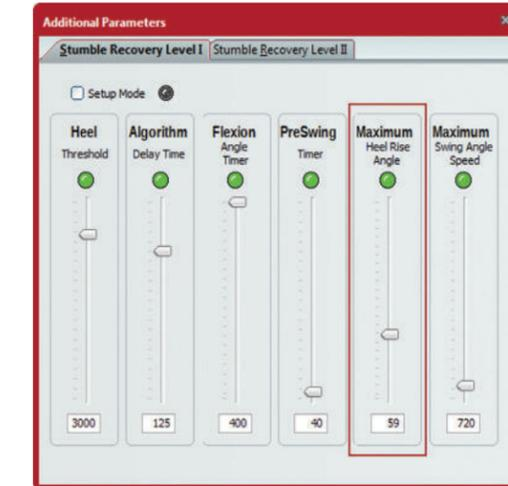

Figure 1
10. In the *Apply Settings* window, select Apply to Knee to set the recommended values to the Plié 3 as well as to take to take the Plié 3 out of Setup Mode. If excessive heel rise is observed during normal to fast walking, an adjustment may need to be made to decrease the “Maximum Heel Rise Angle” value (Figure 1).
- a. Using the air pump adjust swing extension assist. Higher pressure will provide increased assistance, lower pressure will decrease the assistance. Maximum heel rise will automatically be set by the Setup Wizard. If further adjustments are needed refer to "Maximum heel rise" in pane 1 of the Stumble Recovery Parameters (Figure 1).